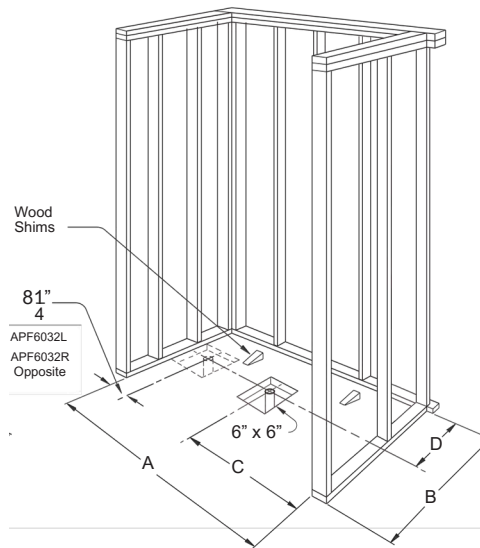

Figure 5
1. Review *Figures 5*. Make sure alcove is of proper size. Framing alcove must reflect interior dimensions on diagram to permit installation of unit. *Note in diagram the required opening in the floor to provide clearance for the drain trap and fitting connection.*
1. Make certain your recessed framed pocket is square and plumb in accordance with rough-in dimensions. Dimensions shown in *Framing Diagram Figure 5* is 1/4" wider than the unit to provide "Wiggle Room".